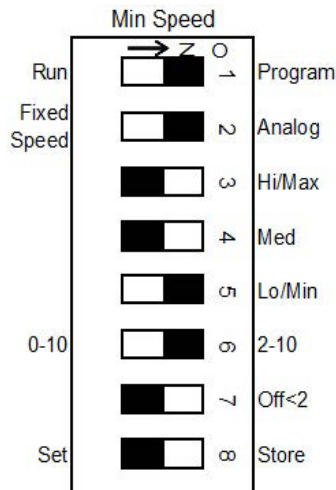

FIGURE 22 - MIN SPEED ADJUST
4. **Min Speed Adjust:** Set configuration switches to LO/MIN SPEED balancing mode (see *Figure 22 on page 31*). Switches to ON-ON-OFF-OFF-ON-ON-OFF-OFF.
- **STORE:** Set switch 8 to Store (ON), wait one second, then to Set (OFF), to save the value.